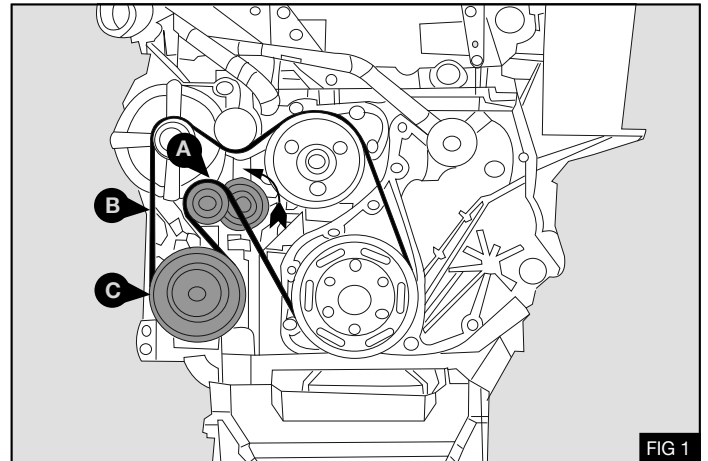

FIG 1
3. Using a suitable tool rotate the automatic belt tensioner pulley **(A)** Anti-clockwise - Fig.1
NB : If the belt routing is different from the diagram shown in Fig.1 report your findings to your Kit/System supplier before proceeding.